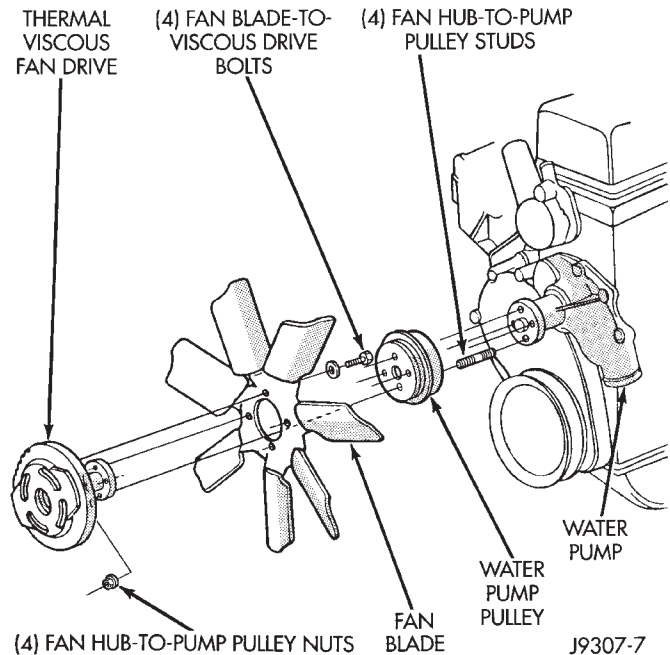

Fig. 66 Fan Mounting Nuts—4.0L 6-Cyl. Engine
(1) Remove the four fan hub-to-water pump pulley mounting nuts (Fig. 66). Carefully remove the fan assembly from the water pump pulley and position to center of fan shroud. Fan belt removal is not necessary as the water pump studs will hold the pump pulley in position. Do not remove fan assembly from vehicle at this time.